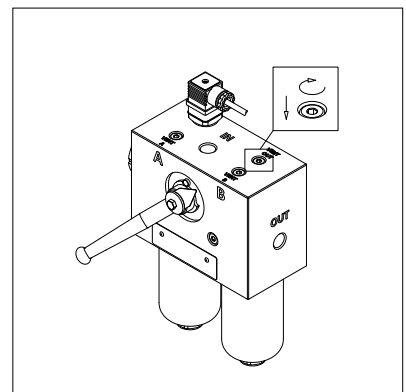

fig. 23
- (Fig. 23) Bleed the air from the system through the “Vent OUT”, until the operating fluid starts oozing. Immediately screw the breather plug in